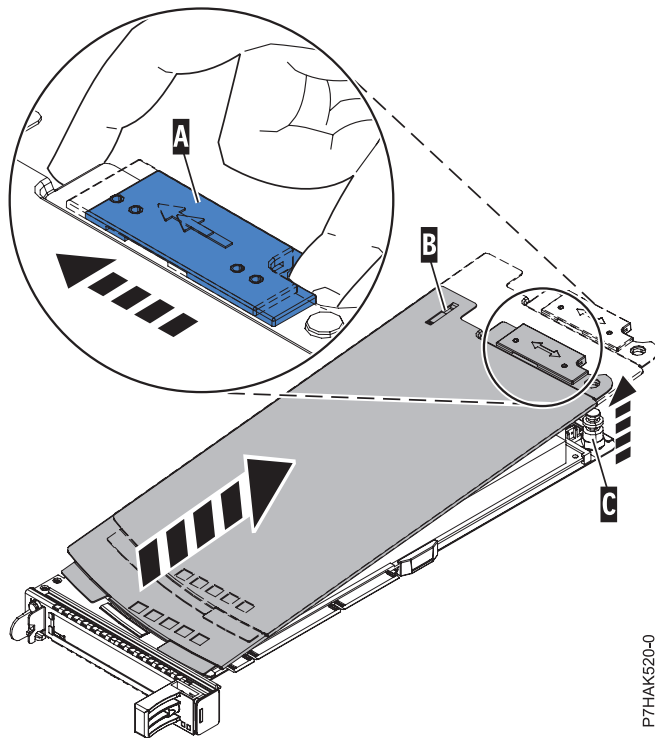

Figure 84. Removing the PCIe adapter cassette cover
- a. Slide the cover latch (A) to disengage it from the pivot pin (C) as shown in Figure 84 on page 81.
- b. Lift the cover (B) off of the pivot pin (C).